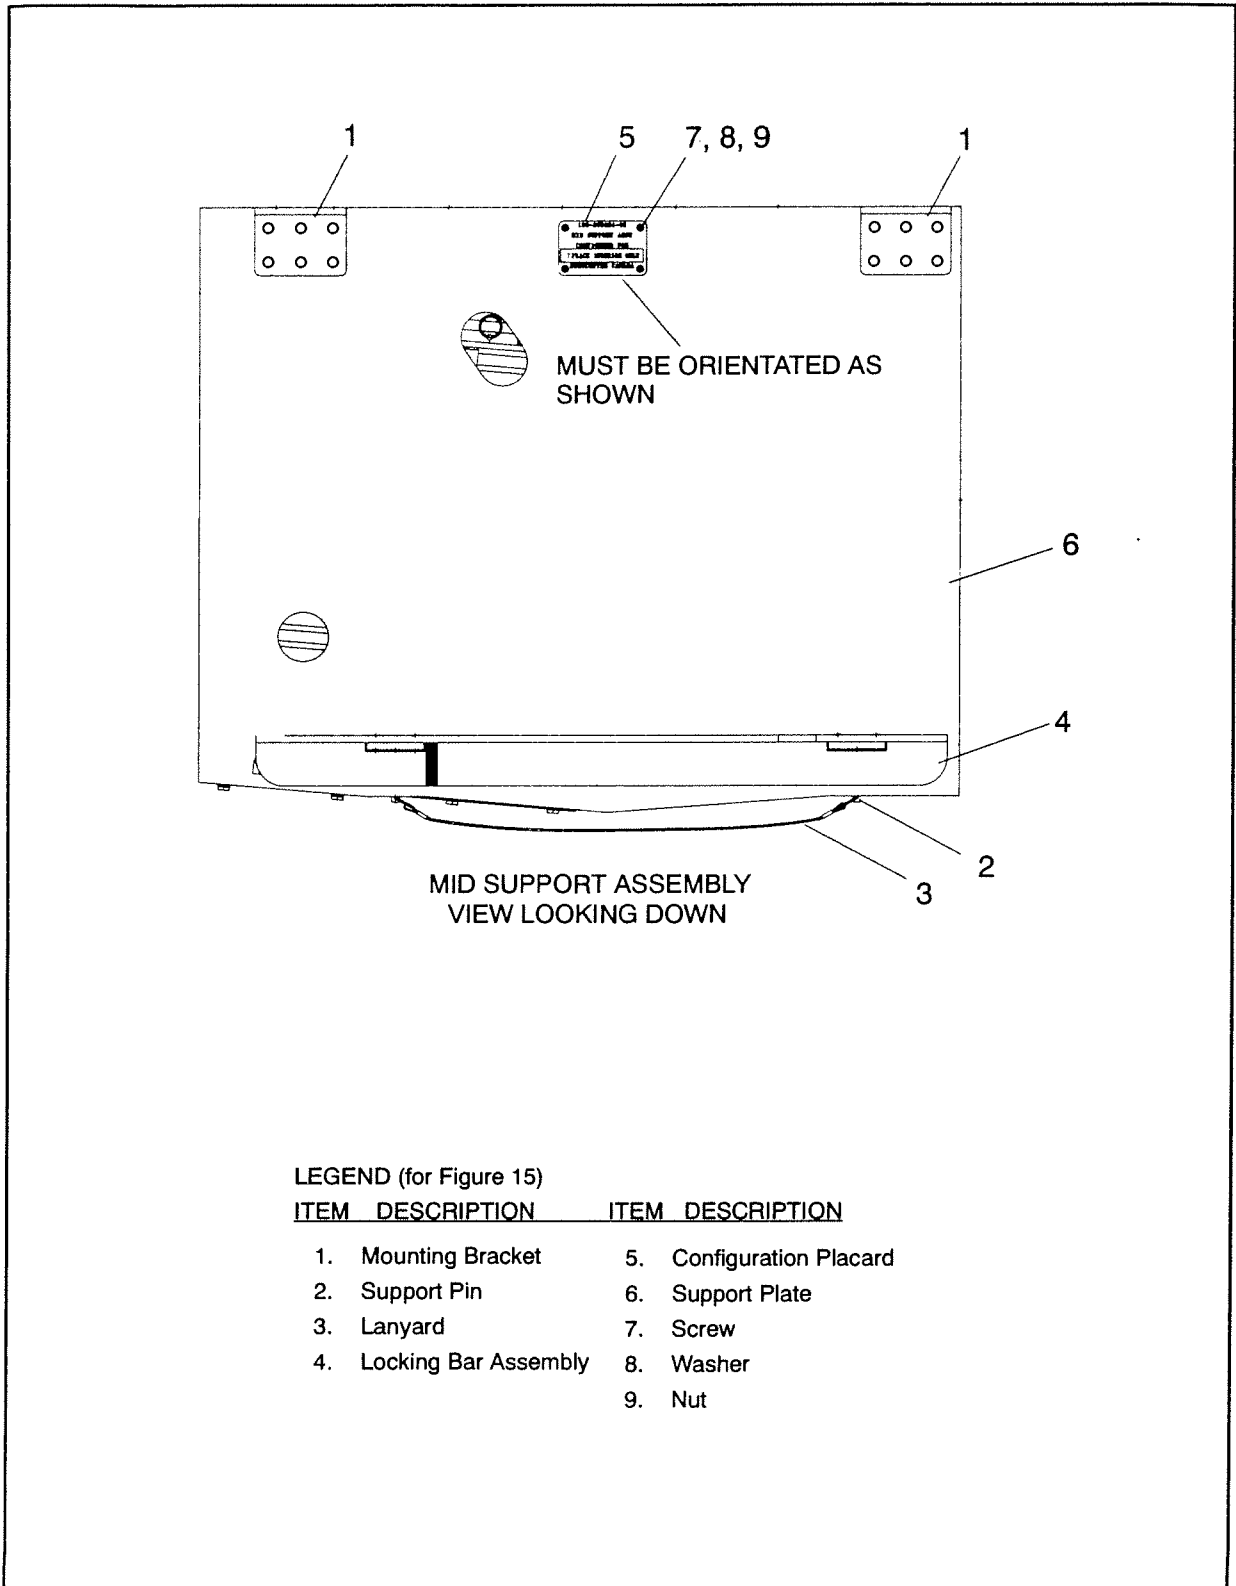

Figure 15 MID Support Assembly, 7 Place Interior
- 14) Install the washers (8) and nuts (9) (6 places).
- 15) Remove the nuts (9, Figure 15), washers (8) and screws (7) (4 places) that secure the 7 place configuration placard (5) to the MID support assembly.
- 16) Reverse the configuration placard to display the 7 place configuration placard (5, Figure 15).
- 17) Install the screws (7), washers (8) and the nuts (9) (4 places).